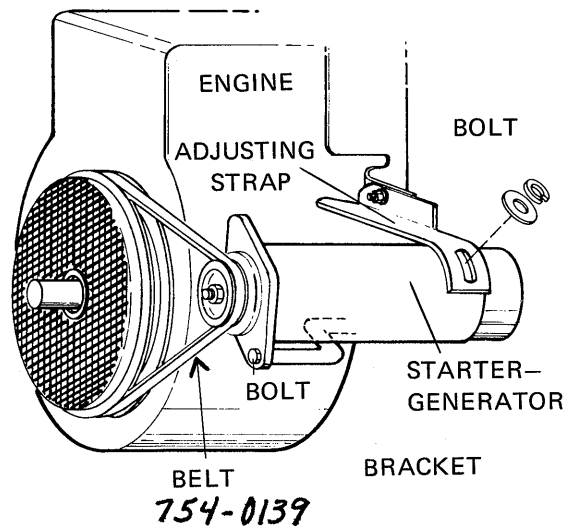

FIG. 9
**Adjustment** — To tighten, loosen the bolt in the bracket slightly, loosen the bolt in the adjusting strap and swing the starter-generator away from the engine until the belt is tight. (Belt should deflect 1/4" when depressed with your thumb.) Tighten all bolts. (see Fig. 9)
**Removal** — Follow same procedure as above except when the bolts on the bracket and adjusting strap are loose, swing the starter-generator towards the engine until the old belt can be removed and replaced. Follow the above procedure for tightening the new bolt. (see Fig. 9)